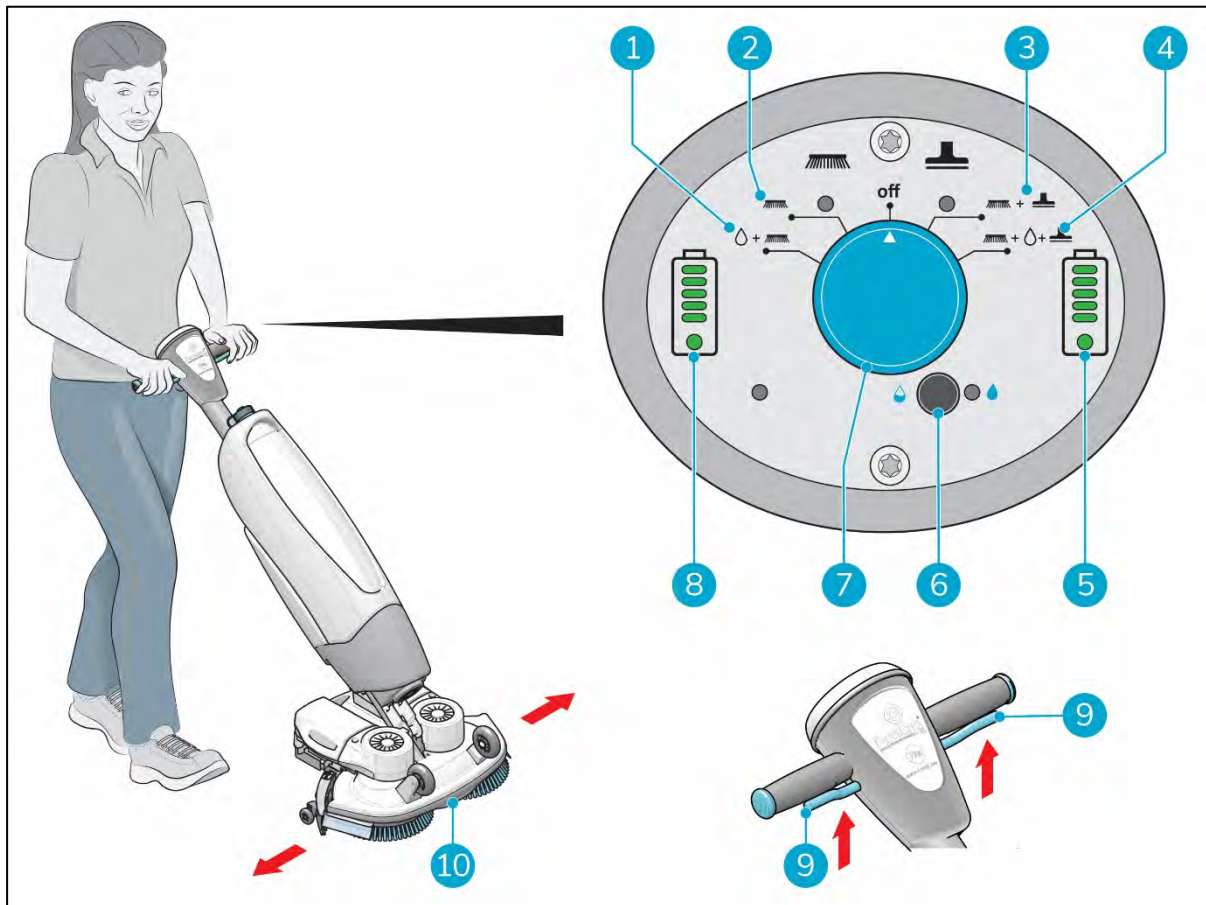

Figure 17
5. Choose your cleaning mode via the main switch (Figure 17, pos 7). This will also turn on the i-mop XL Basic.
- MODE 1: Brush + water/cleaning solution (Figure 17, pos 1).
- MODE 2: Brush only (Figure 17, pos 2).
- MODE 3: Brush + vacuum (Figure 17, pos 3).
- MODE 4: Brush + water/cleaning solution + vacuum (Figure 17, pos 4).
7. Squeeze the trigger on the handle (Figure 17, pos 9).
10. Steer by gently turning the handle left or right to move the scrub deck (Figure 17, pos 10).
11. Releasing the trigger (Figure 17, pos 9) will immediately stop the i-mop XL Basic. The vacuum motor will stop after 3 seconds.